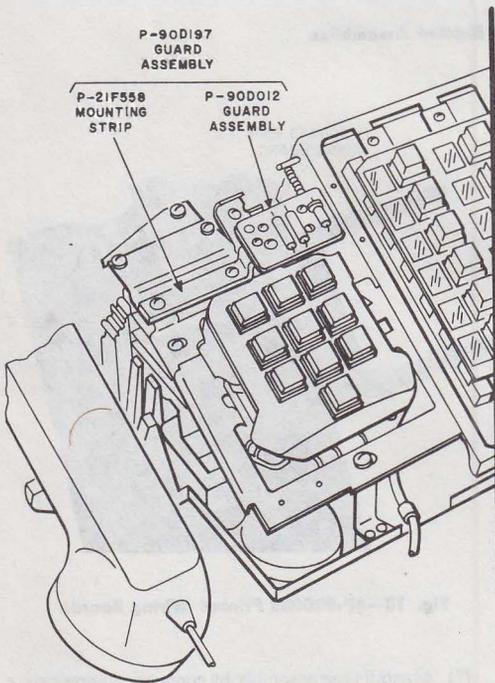

Fig. 19—Location Of Guard Assembly (Polarity Guard)
- (1) Remove set housing.
- (2) Remove two screws holding P-44E410 buzzer bracket.
- (3) Place P-21F558 mounting strip, part of the P-90D197 guard assembly, on buzzer bracket (Fig. 19) fasten with two screws just removed.